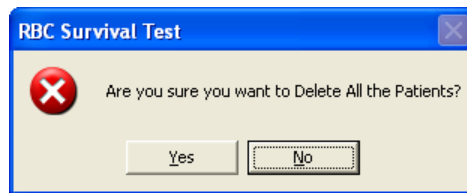

Figure 10-71
- To delete all the patients at once, simply click the  icon. You will be prompted to confirm the deletion. Figure 10-71 will appear.